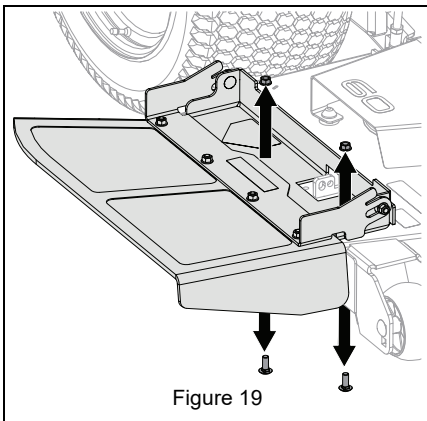

Figure 19
1. Remove and retain two round head square neck bolts and two center locking flange nuts securing discharge chute to deck. Remove discharge chute and retain for operation without bagger. See Figure 19.